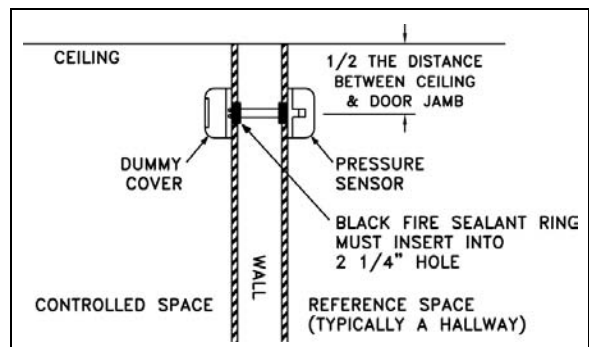

Figure 6: Cutaway View of Mounted Pressure Sensor
**WARNING:** 800326 pressure sensor must be mounted through the wall between the controlled space (laboratory) and referenced space (hallway), exactly as shown in Figure 6.